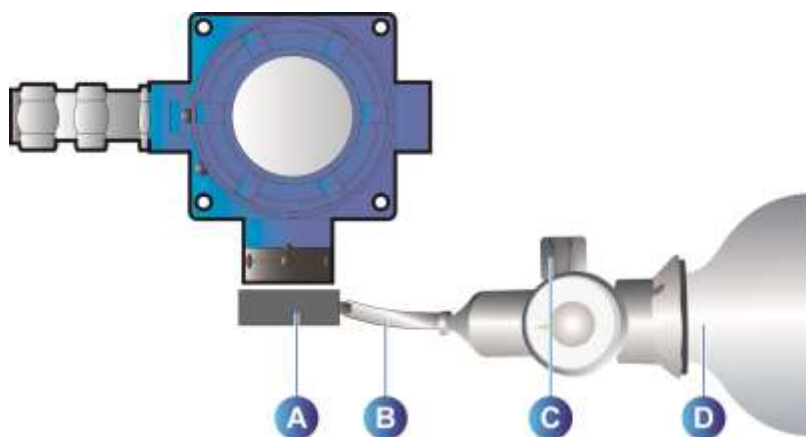

Figure 13 : Zeroing (OLC 100)
2. Place the calibration cup onto the detector head (Figure 13, "A").
2. Place the calibration cup on the detector head (Figure 13, "A").